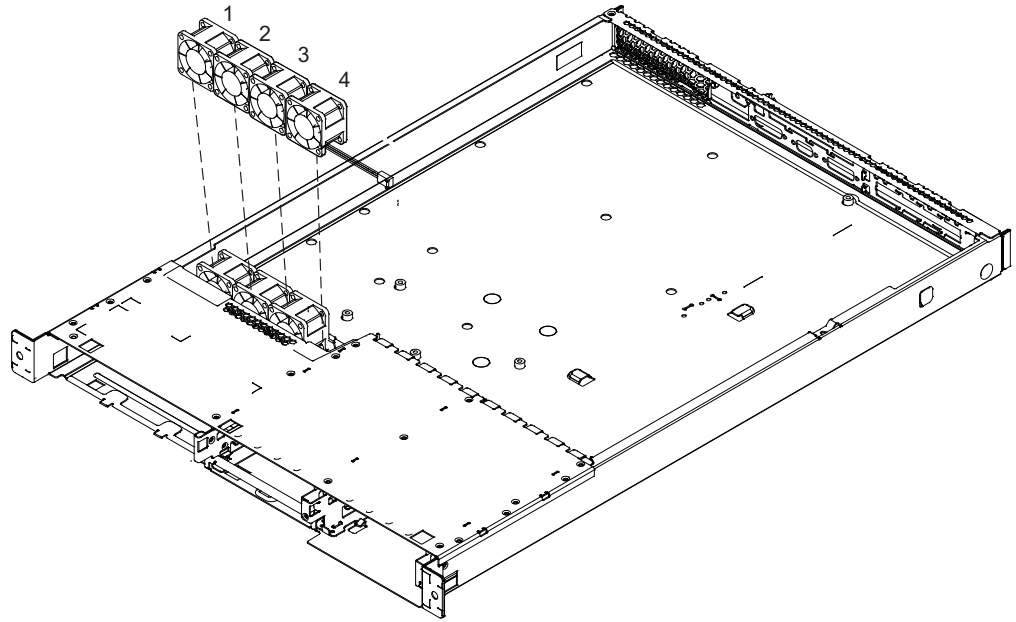

Figure 223. SAN Volume Controller 2145-4F2 microprocessor fan locations
1. Push the fan downward into the retaining clip. Figure 223 on page 551 shows the location of the fans and the retaining clips.